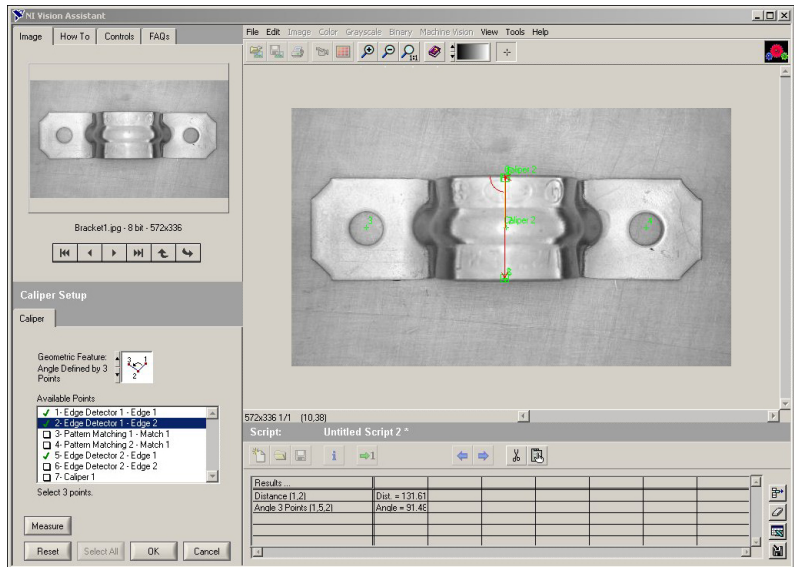

Figure 4-7. Using the Caliper Tool to Collect Measurements
11. Click points **1**, **5**, and **2**, in this order, to find the third measurement—Bracket Angle—which measures the angle of the bracket arms with respect to a vertex at point 5, as shown in Figure 4-7.
Figure 4-7 shows the image with Bracket Distance and Bracket Angle selected on the image and displayed in the results table.